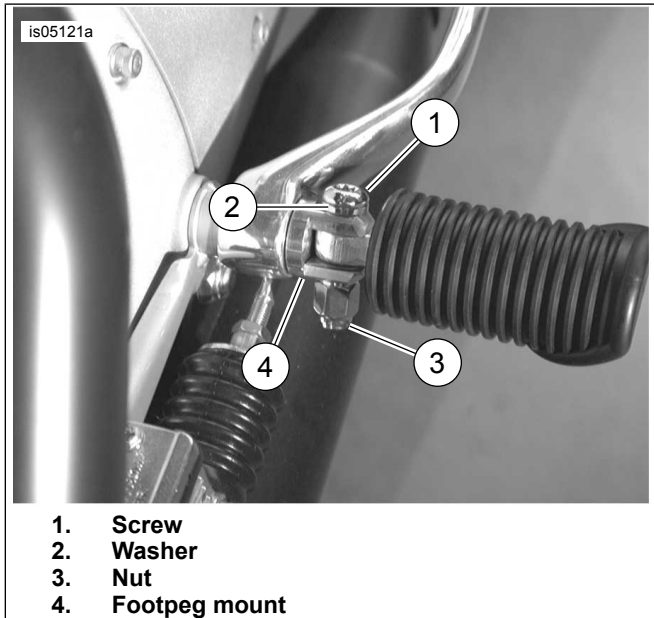

Figure 2. Footpeg Screw Installation
2. Figure 2 Install footpeg with **new** washer (2) and screw (1).
3. Install **new** nut (3). Tighten.